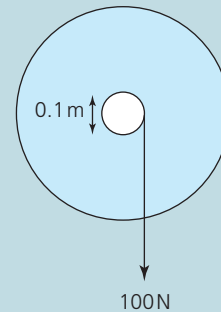

Figure 11
10. A flywheel is mounted on a horizontal axle of diameter 0.1 m. A constant force of 100 N is applied tangentially to the axle (Figure 11). If the moment of inertia of the whole system (flywheel and axle) is 8.0 kg m^2 , determine